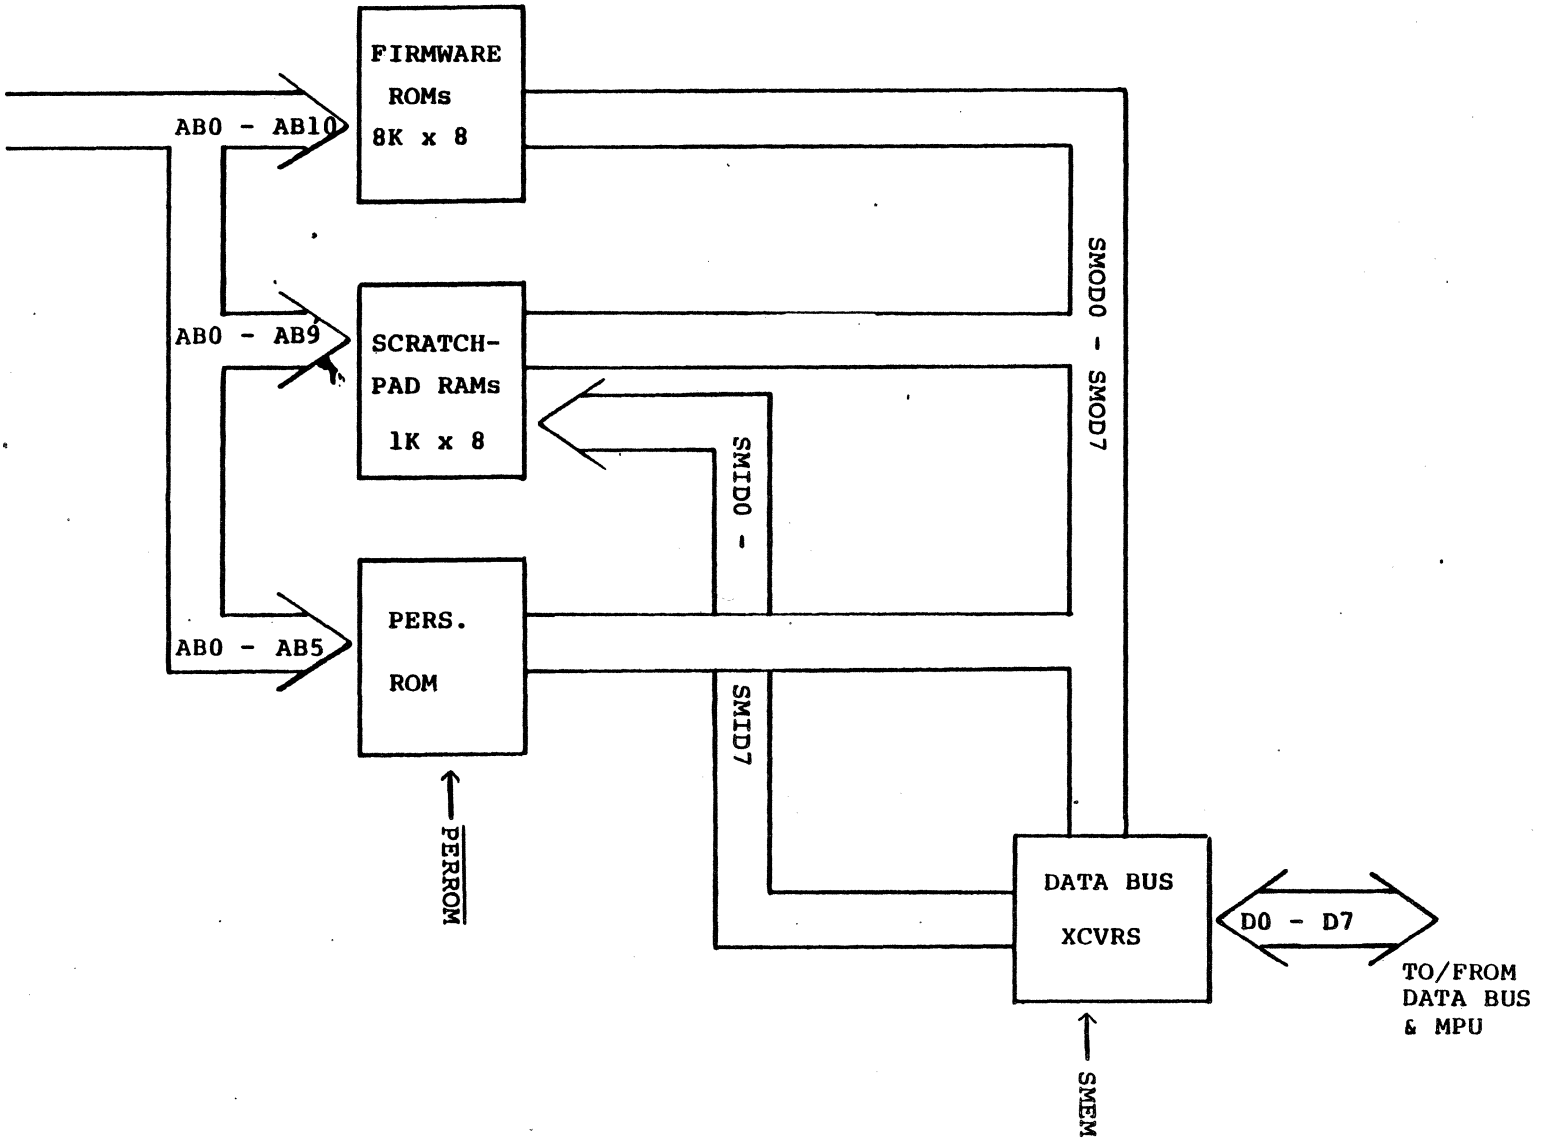

Figure 6-7. System Memory Board
6.3.3 System Memory Section (Figure 6-7; Schematic Sheet 8)